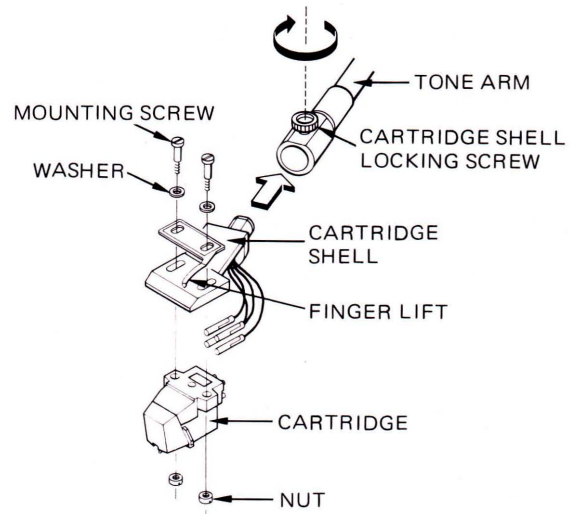

Fig. 4
- Plug the cartridge shell into the tone arm and tighten the cartridge shell locking screw by turning it clockwise. (Fig. 4).